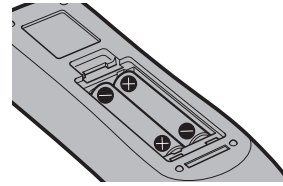

Fig. 2
- 2) **Insert the batteries and close the cover (insert the  side first). (Fig. 2)**